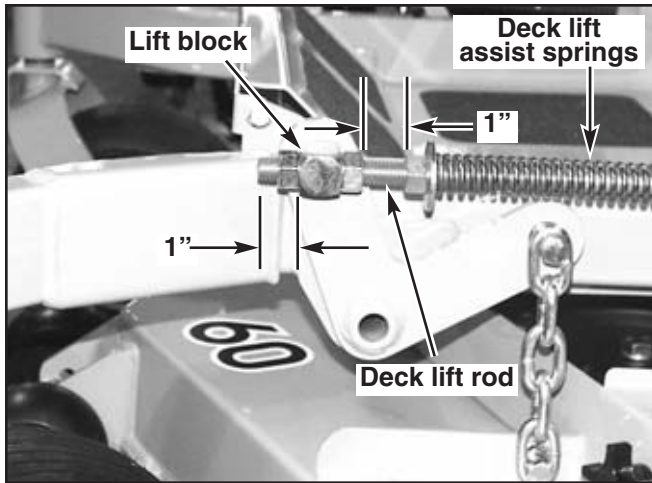

Figure 5-21
9. Set the amount of threads protruding on the deck lift rod from the lift block at approximately 1". Fig. 5-21
27. Compress the deck lift assist springs so that there is 1" of space between the front nut and on the spring and the rear nut on the deck lift block (Fig. 5-21). Typical both sides.